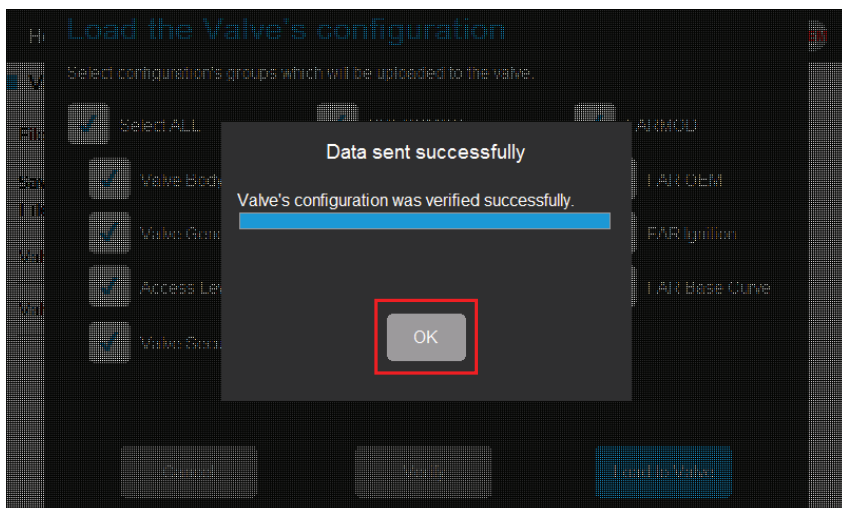

Fig. 120: Load valve configuration successful completion.
9. Once the data is successfully sent and verified, the text 'Data send successfully' is displayed at the top of the progress bar. Refer to Fig. 120.